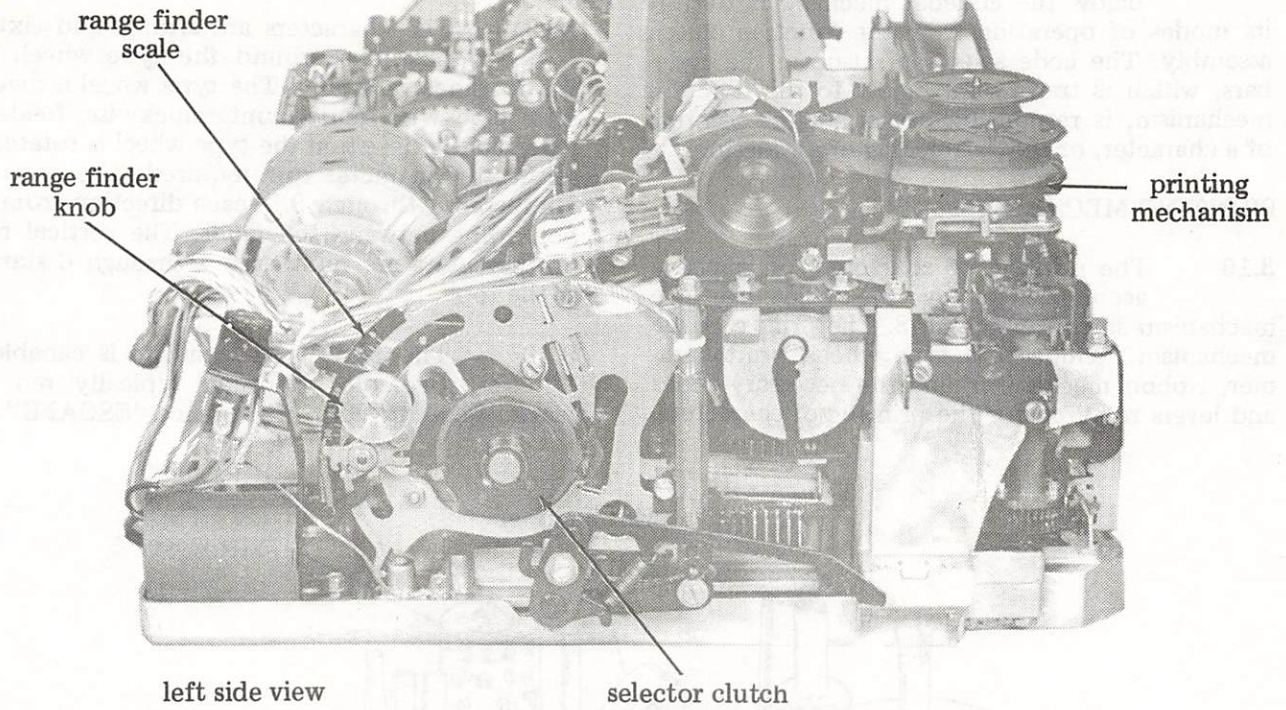

Figure 6 - Selector Mechanism
3.09 The selector mechanism is located on the left side of the typing unit (Figure 6). The selector mechanism receives the code combinations from the selector magnet driver and converts them into mechanical arrangements. These mechanical arrangements control the codebar mechanism.
3.10 For optimum operation of the typing unit, the selector must sample the code elements at the most favorable time. The range finder (Figure 6) provides a means of determining